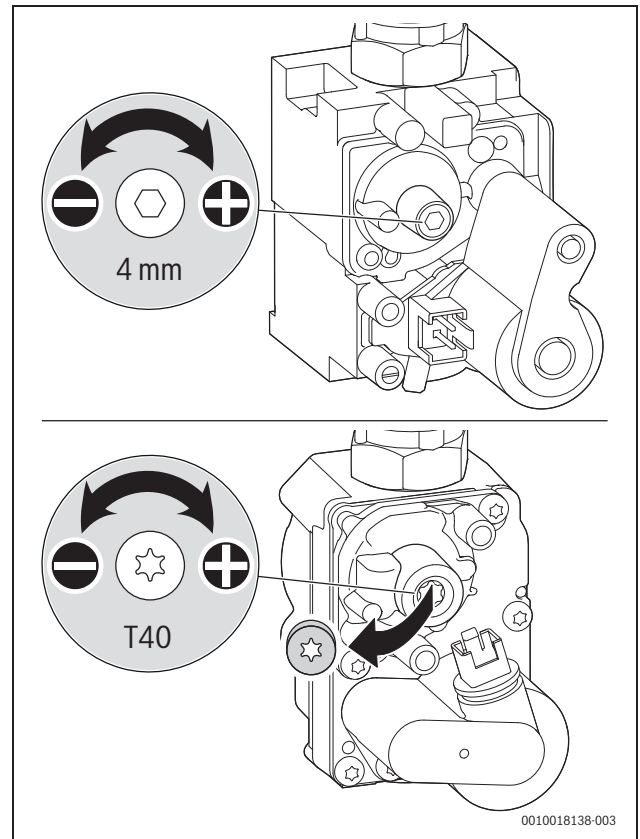

Fig. 103 Setting the CO2 or O2 content (above: SIT valve, below: Honeywell valve)
- ▶ Remove the seal from the adjusting screw of the air/gas ratio control valve (only air/gas ratio control valve is shown in the below Fig. 103) and set the CO2 or O2 content for minimum rated output.